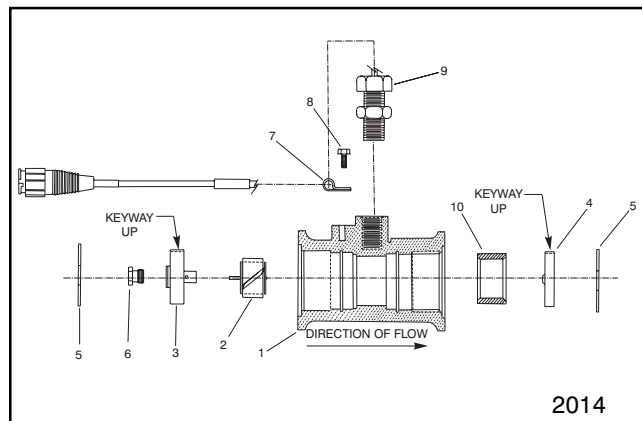

FIG. 3
3. Remove Retainer Ring on up stream side. See FIG. 3.